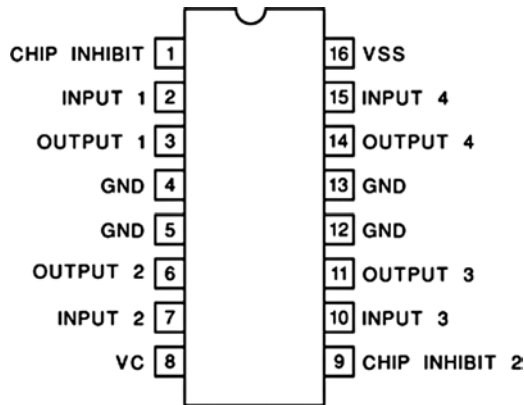

Figure 5-6. The pinouts for the L293D (or SN754410)
- Exercise 1: Instead of just one motor, try connecting up two, with two direction switches and potentiometers to control the direction and speed. Figure 5-6 shows the pinouts of the chip.